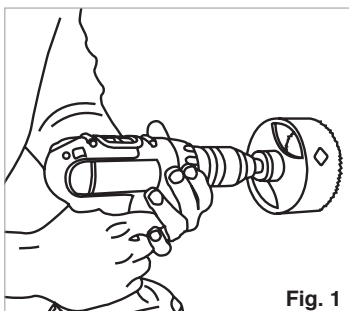

Fig. 1
2. Drill 4" diameter hole using a circular hole saw (see fig.1)